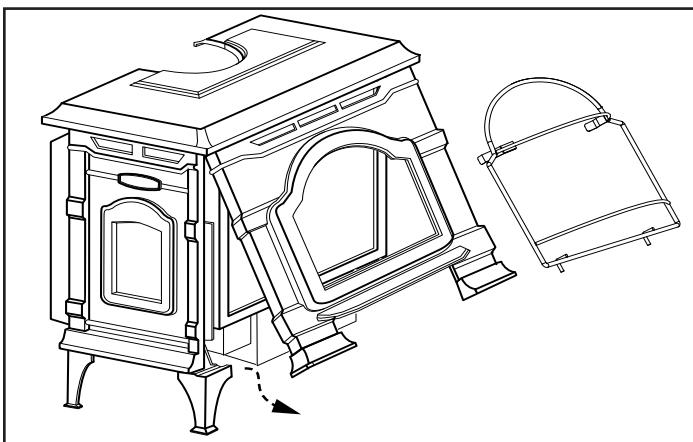

Figure 4.1 - Remove stove front.
1. Remove barrier screen first by pulling out and up. Remove stove front. Lift stove front up and then swing bottom out and away to disengage from the stove body, Figure 4.1.